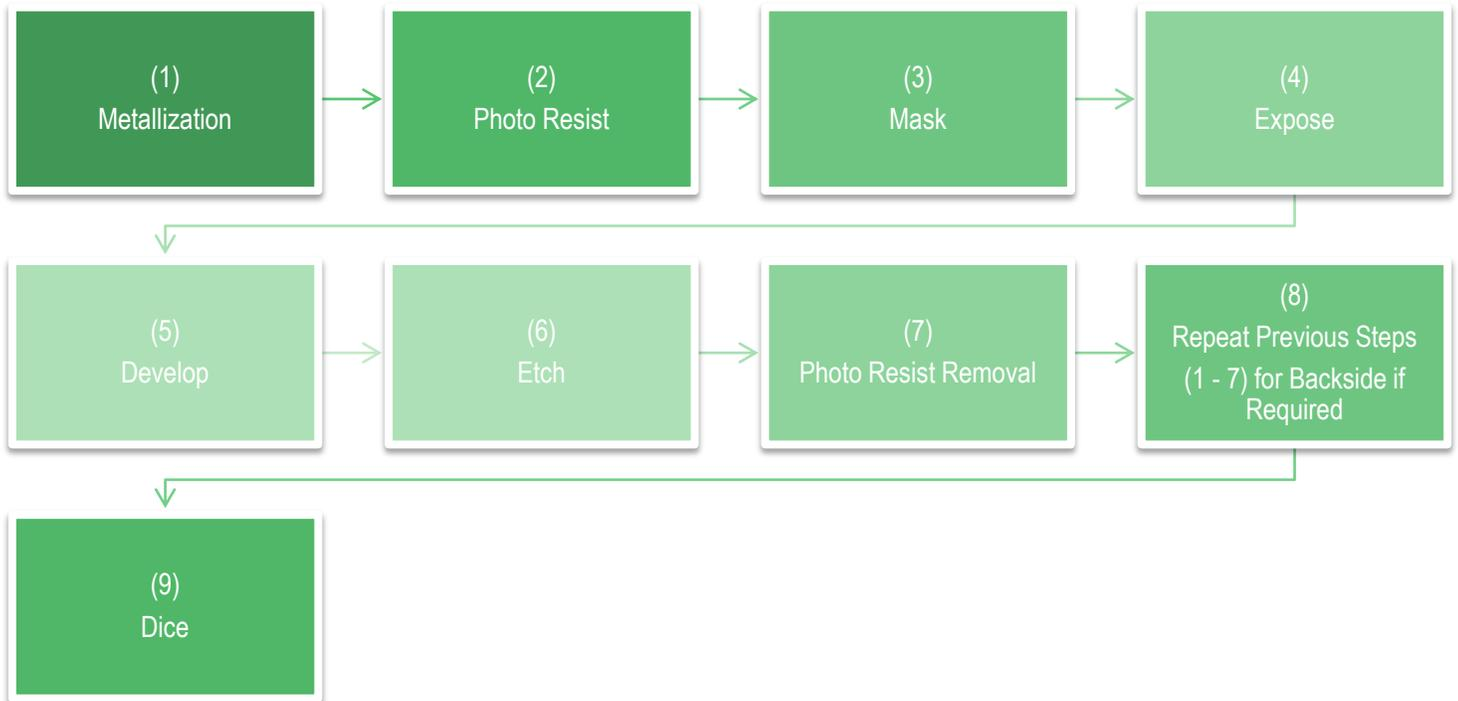

Figure 1: Basic thin film processing.
- When processing resistors, steps 2 – 7 (Figure 1) are repeated again after step 7 in order to remove the metallization and expose the resist layer. (See Figure 2).